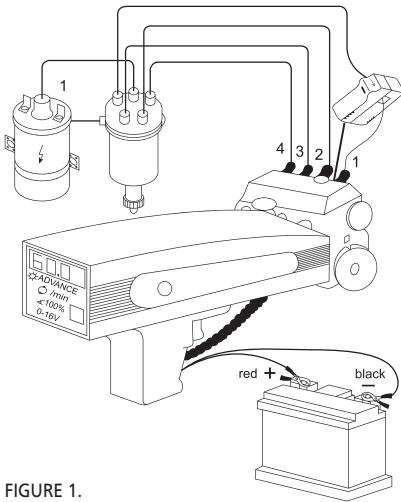

FIGURE 1.
1. Electrical connection of the timing light. The timing light works directly with the car battery. Connect the red clip to the positive (+) terminal and the black clip to the negative (-) terminal. (See figure 1)
3. Connect the red clip to the positive battery terminal (+) and the black clip to the negative battery terminal (-). (See figure 1).